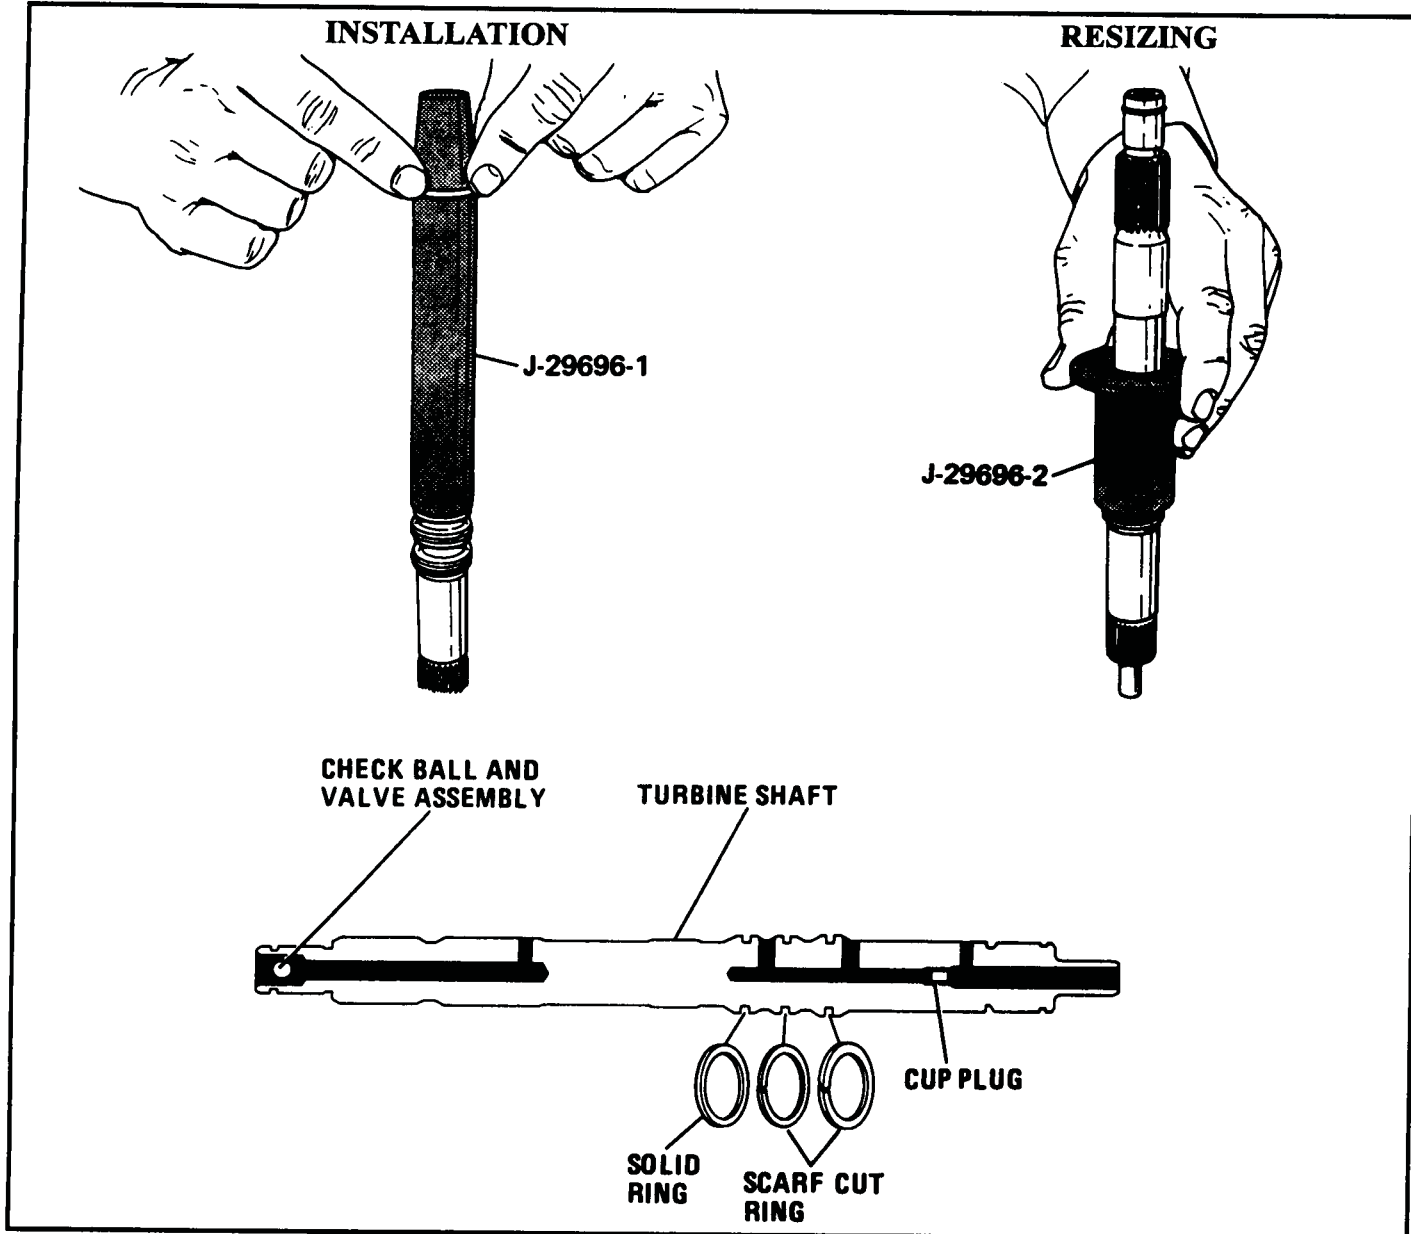

Figure 116
7. Install the two scarf cut Teflon sealing rings on turbine shaft, in the positions shown in Figure 116.
9. Install the solid Teflon sealing ring on turbine shaft in the position shown in Figure 116, and using the installation and re-sizing tools that are shown in Figure 116.
10. Some kits may have three solid Teflon sealing rings for this location. In that case use the tools shown in Figure 116 to install all three solid Teflon rings.